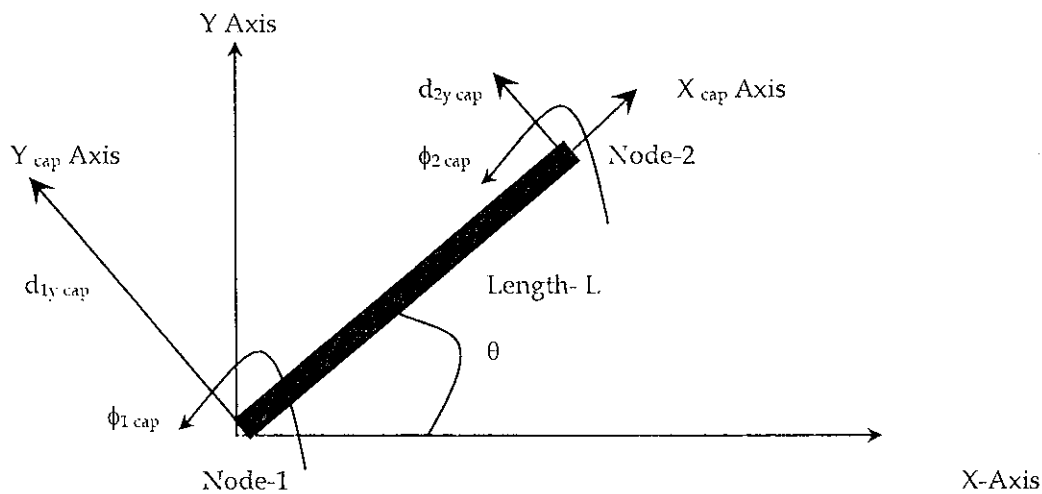

Figure 4: Arbitrarily oriented beam element
Q.5 Develop a global elemental stiffness matrix for an arbitrarily oriented two dimensional beam element shown in Figure 4. [6]